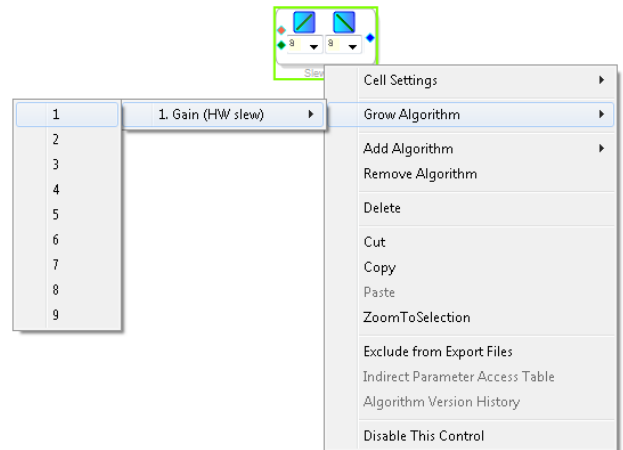

Figure 57. Adding a Channel to the **Slew vol 1** Block
- By default, the **Slew vol 1** block has one audio signal input. To add another channel, right-click the empty white space of the **Slew vol 1** block and select the **Grow Algorithm > 1. Gain (HW slew) > 1** option from the drop-down menu that appears (see Figure 57).